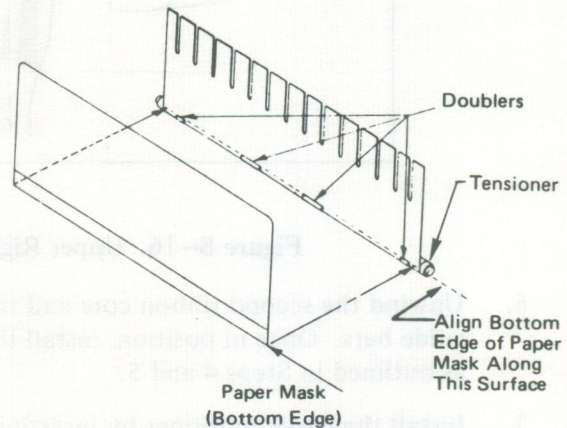

Figure 8-18. Paper Mask Installation
4. Apply the mask to the paper tensioner with the adhesive side against the tensioner as shown in Figure 8-18. Ensure that the bottom edge of the mask touches the top edge of the tensioner doublers and that the top edge of the mask is about 1/8 inch below the print station.